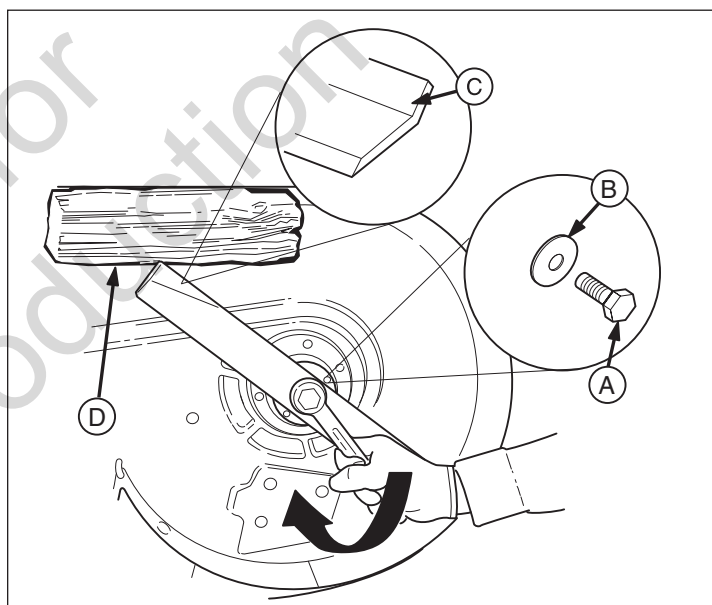

Figure 17. Tightening the Mower Blade for Installation
1. Reinstall each mower blade with the air lifts pointing up towards the mower deck as shown in Figure 17. The blade spacers, blade, washer and blade bolt must be installed in the same order that they were removed. Torque to 70 ft. lbs (94 Nm).